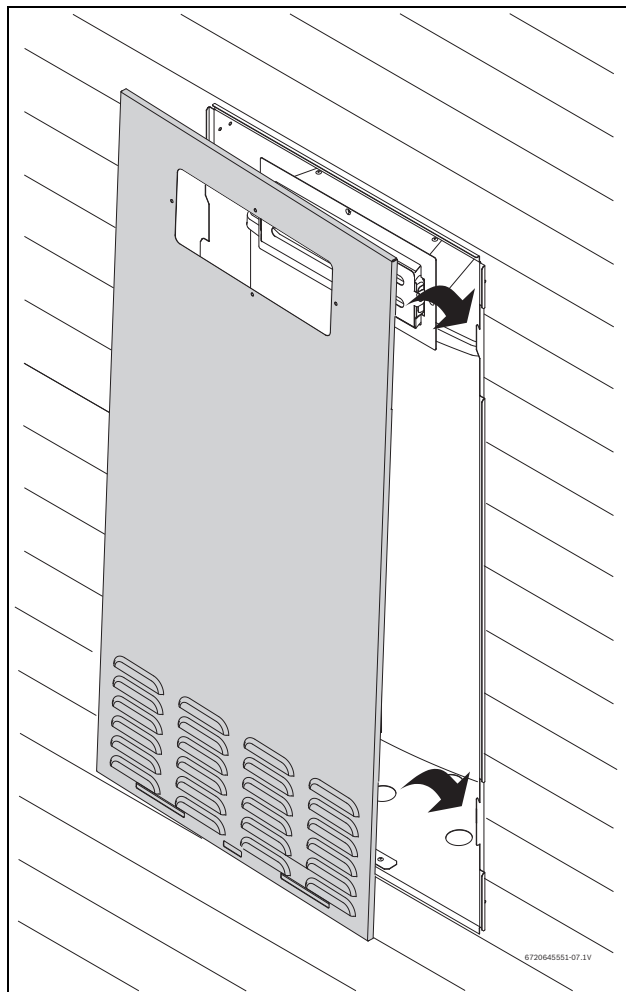

Fig. 19
- Position the recess box cover as showed in Fig. 19.